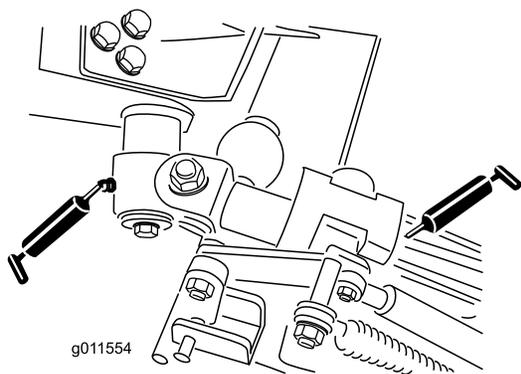

Figure 86
- 2 bell-crank-pivot bushings (Figure 86)
- 4 rear arm bushings (Figure 86)